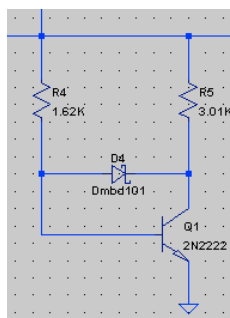
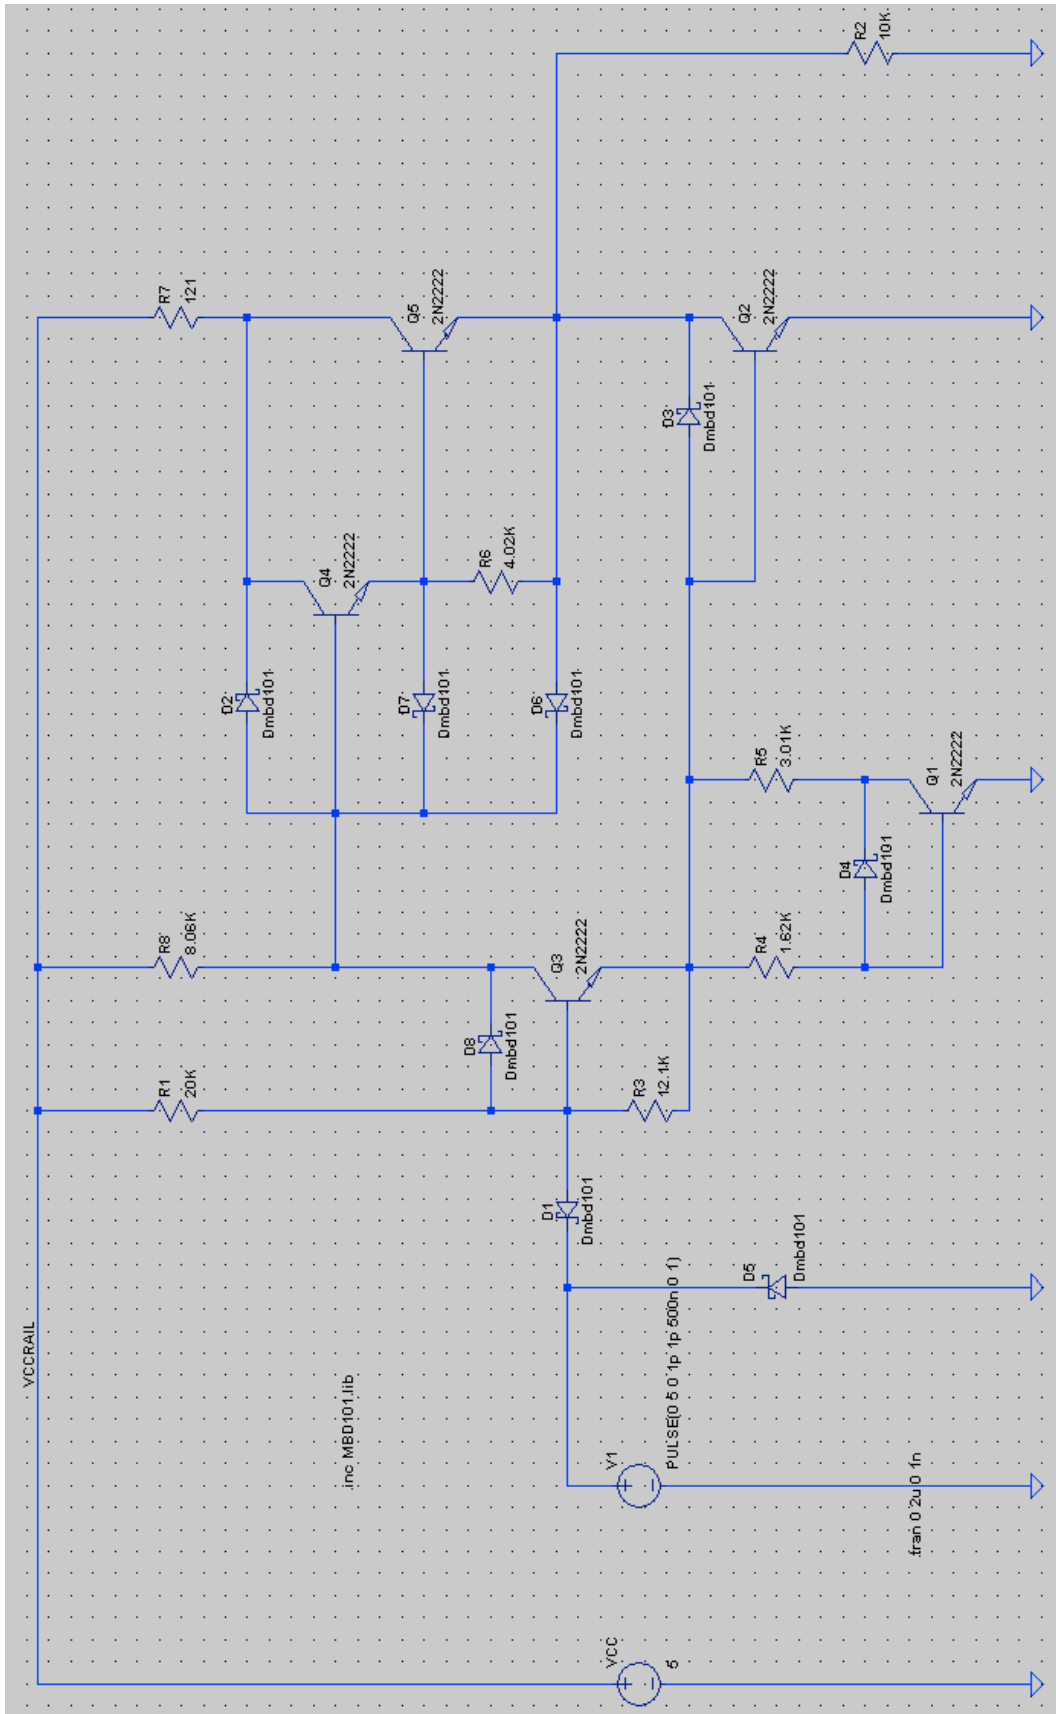

Figure 3: LSTTL inverter active pull-down subcircuit.
Figure 4: LSTTL inverter logic gate.
- 2.5. Save and close your TTL inverter schematic. Create a new schematic called “Schottky TTL Inverter”. Construct the LSTTL circuit shown in Figure 4. Use the MBD101.lib library created in Section 1 to implement the Schottky diodes. As in the TTL case, measure the low-to-high and high-to-low output propagation delays  $t_{PLH}$  and  $t_{PHL}$ . Compare these propagation delays with those obtained for the TTL case.
- 2.7. All of the BJTs in the LSTTL inverter circuit are Schottky transistors with the exception of Q5 (see the Figure 4). With the aid of appropriate measurements, explain why this is the case. Does this conform with the theory?
- 2.8. Consider the sub-circuit shown of Figure 4 shown in Figure 3. Connect a single DC voltage source from the unconnected wires to ground. By conducting a DC input voltage sweep and measuring the corresponding current, show that this circuit performs the role of an active pull-down. Explain what this means in terms of resistance versus voltage, and how this helps in the switching of the output stage BJT Q2.